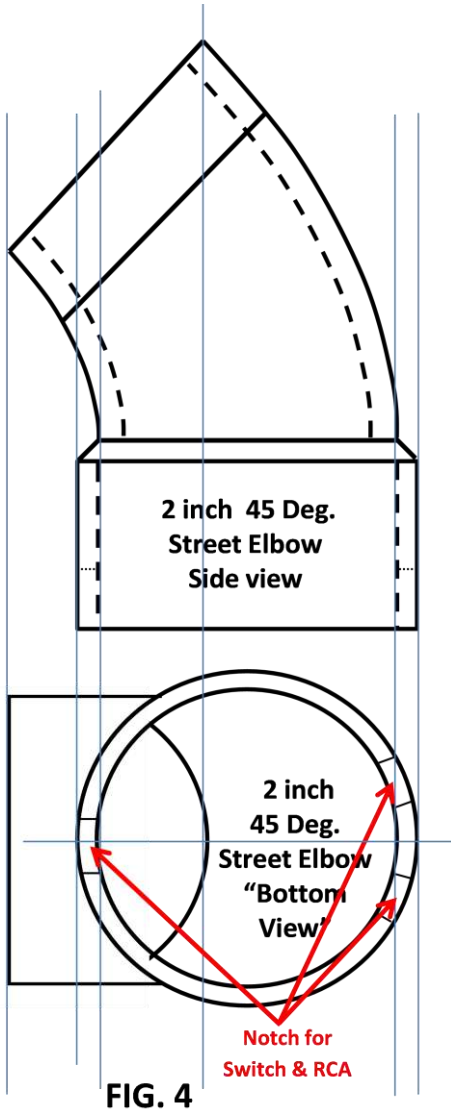

FIG. 4
- 1 – To the **Street Elbow**, add **clearance notches** for the **Switch** and **RCA Jacks**. Add enough depth to the notches so there's about 3/16 to a 1/8 of an inch of the **“Speaker Cavity”** exposed at the bottom of the Elbow. I did it by using a **Dremel Tool** with a small circular sanding wheel (not a disk). Set it aside for the moment. See figure 4.